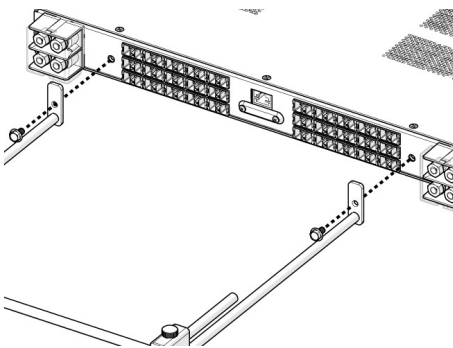

Figure 7. Mount to chassis
- Step 4.** Secure the base of the two straight panel extension poles from Step 2 to the threaded holes found on the rear of the fuse panel chassis by tightening the hex-head hardware (see Figure 7).